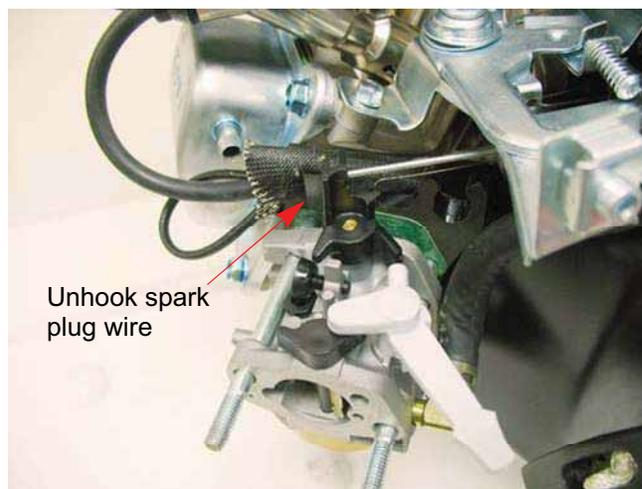

Figure 7.11
3. Unhook the spark plug wire from the clip in the carburetor insulator. See Figure 7.11.